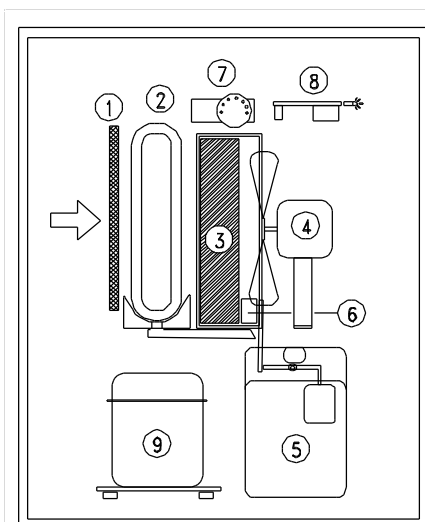

Fig. 1
With reference to the drawing (fig. 1), the air is drawn in through the back side of the dehumidifier, then it passes through the **filter** (1), through the aluminium refrigerated coil or **evaporator** (2), again trough the heat- exchanger or **condenser** (3). Finally, the **motor fan** (4) expels the air back into the room through the front grilvoyant panel: The condensed water is collected in the **tank** (5). A **micro-switch** (6) stops the machine when the water in the tank reaches the correct level by raising the water float lever. The **humidistat** (7) starts the functioning of the dehumidifier when the humidity his higher than the preset level. An **electronic circuit** (8) controls the defrosting and prevents the **compressor** (9) repeated starts within too short a time by delaying each new start.